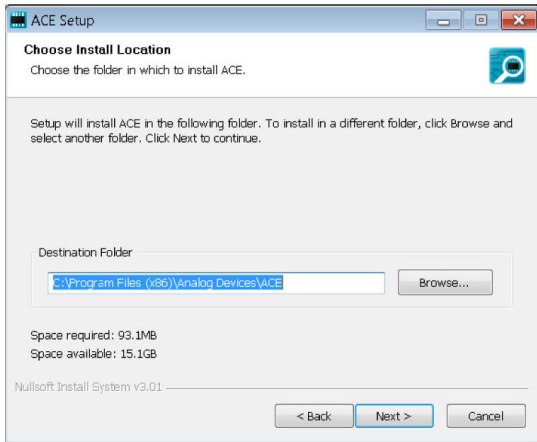

Figure 12. Choose Installation Location
6. Click **Browse...** to choose the installation location and then click **Next >** (see Figure 12).